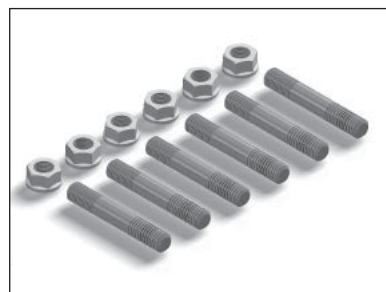

Figure 53
3. Install the studs (**Fig. 53**) hand tight in the PTO aperture pad using a stud driver. **DO NOT** use air tools to install studs.